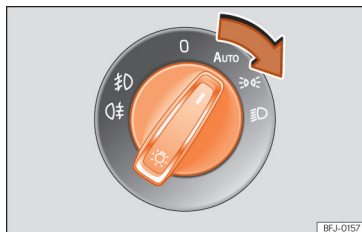

Fig. 70 Instrument panel: light panel.
- Turn on the ignition and turn the light switch to the desired position >>> **Fig. 70**: